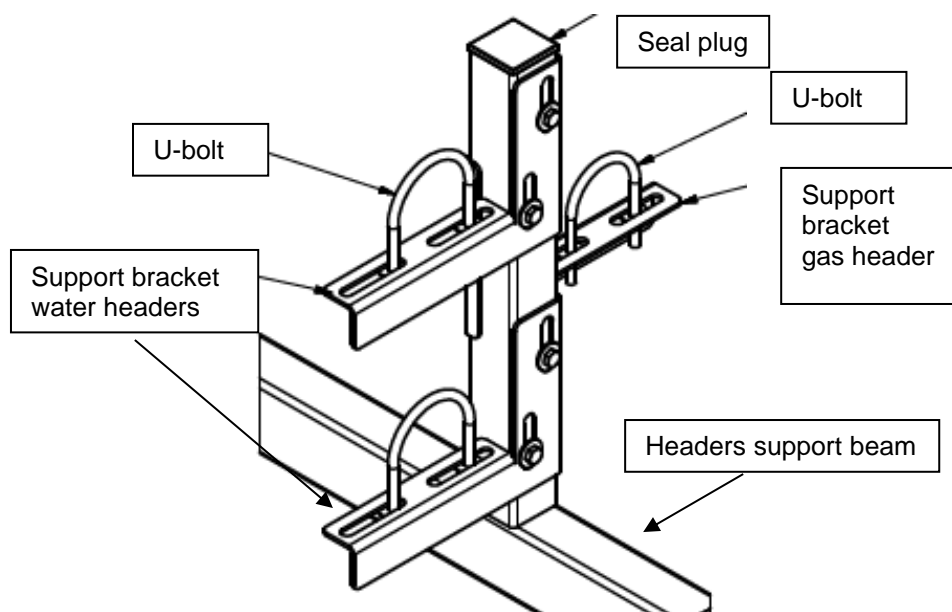

Figure 6.2 Headers support beam and support brackets
2. Mount the support brackets for the gas header at nominal height. See also Figure 6.2.
1. Mount the support brackets for the return header at nominal height. See also Figure 6.2.
4. Mount the support brackets for the supply header. See also Figure 6.2.